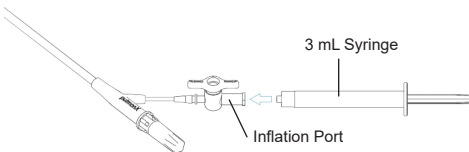

Figure 2: Balloon Inflation Port Connection
5. Attach the 3 mL syringe to the balloon inflation port of the one-way stopcock on the handle of the Chartis Precision XL Catheter. See Figure 2 below.